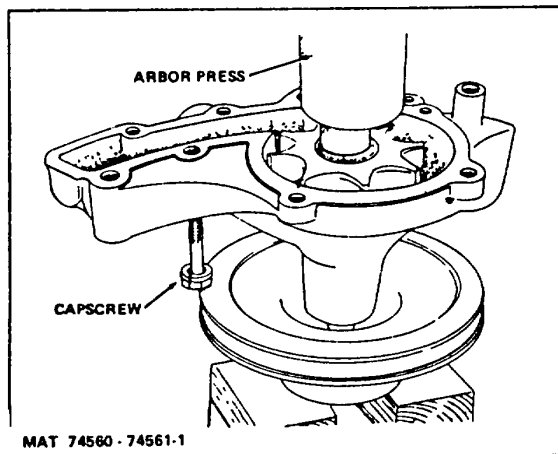

Figure 6. Water Pump Assembly Showing Inserted Capscrew, Prior to Pulley Press Fit.
2. Insert capscrew in pump body BEFORE pressing pulley on to shaft (Figure 6). Coat inside of pulley bore with Loctite retainer compound.